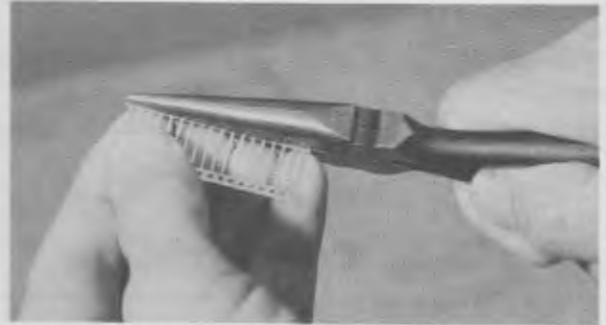

Fig. 4. Preparing the display connector.
(1) Locate the 18-pin display connector (MS60) and examine it closely. You will notice that the pins are held between two carrier strips which have a series of holes punched in them. You will note further that there is a thick part on each pin near one end of the pin. Grasp the perforated carrier strip nearest the end of the pin that has the thick part with a pair of longnose pliers as shown in Fig. 4. While holding the pins in one hand, carefully break off the carrier strip nearest the thick part of the pins ()